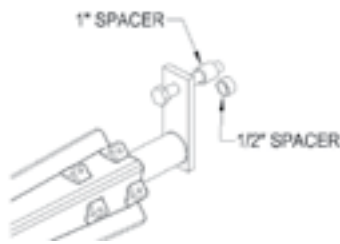

Figure 3
- Spacers are supplied to bring the steel swivel away from the frame in the event of any obstructions (see Figure 3).